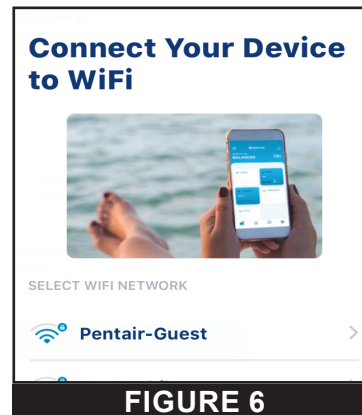

FIGURE 6
8. The Connect Your Device to WiFi screen will display (**Figure 6**). Select your WiFi router and enter the password. Press CONTINUE.